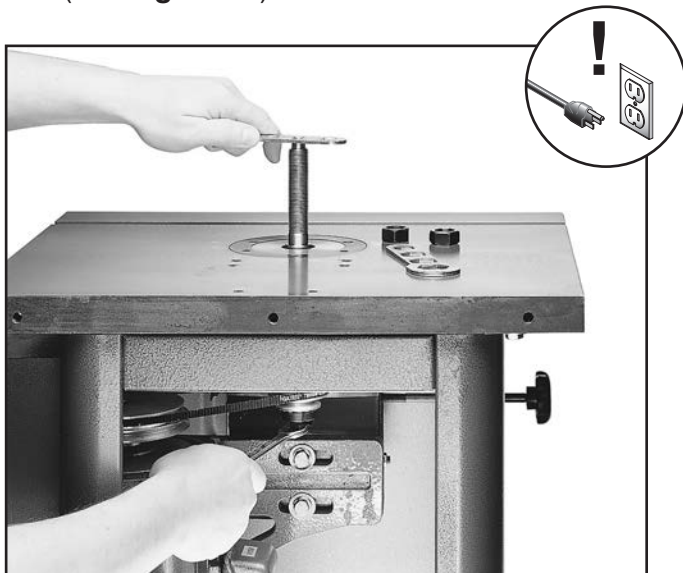

Figure 19. Tightening the drawbar nut.
5. Place the spindle wrench on top of the spindle, so it fits over the head of the spindle. Place a 14mm wrench on the drawbar nut (see **Figure 19**).